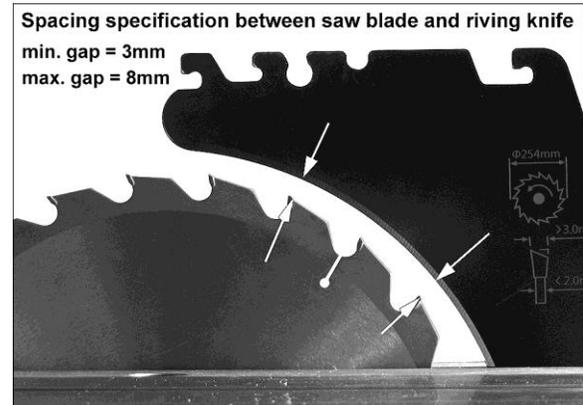

Figure 7-8
- Tighten screws (C).
- Reinsert riving knife; engage lever (A) and check that saw blade/knife gap is between 3 to 8mm (Figure 7-8).